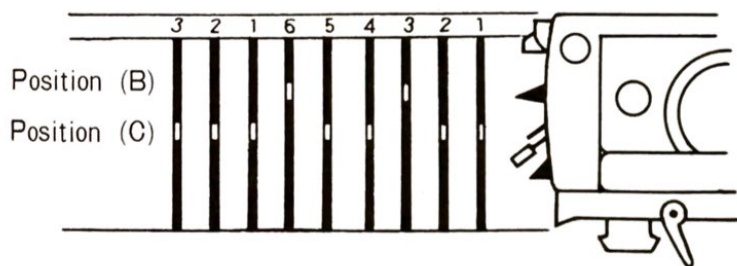
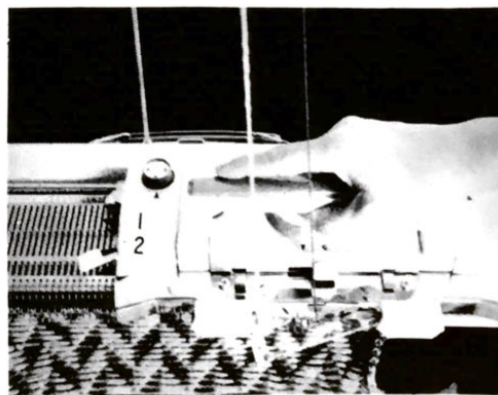

Fig. 36
Fig. 37
- \* **1st row** With Carriage on right. Push back into Position (B) the 3rd and 6th needles from the right end opposite Nos. 3 and 6. (Fig. 36) Knit 1 row with main colour. (Fig. 37)
- 2nd row** With carriage on left. Push back into Position (B) 1st and 4th needles opposite Nos. 6 and 3. Knit 1 row.
- 3rd row** With carriage on right. Replace main colour with contrast colour by switching feeders. Push back into Position (B) 2nd and 5th needles from the right end opposite Nos. 2 and 5, and knit with contrast colour.
- 4th row** With carriage on left, push back into Position (B) 2nd and 5th needles from the left opposite Nos. 2 and 5. Knit 1 row with contrast colour.
- 5th row** With carriage on right, push back into Position (B) the 1st and 4th needles opposite Nos. 1 and 4. Knit 1 row with contrast colour.
- 6th row** With carriage on left, push back into Position (B) the 3rd and 6th needles from the left end opposite Nos. 3 and 6. Knit 1 row with contrast colour. \*